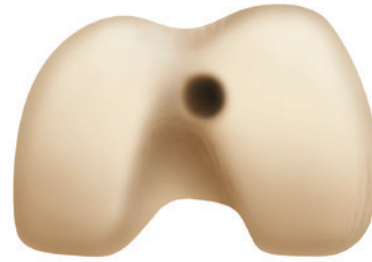

Figure 3
- 1 Open the femoral canal with the 9.5mm Intramedullary Drill. The drill has a 12mm step to open the entry point further, if desired. (Figure 3).